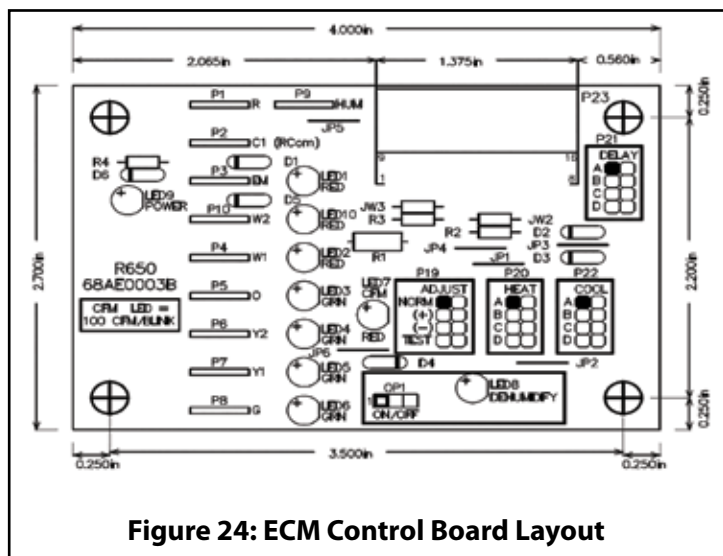

Figure 24: ECM Control Board Layout
5. Motor speed can be changed for both heating and cooling modes by moving the jumper on the “COOL” and “HEAT” jumper pins (See Figure 24) on the ECM control board to a different setting. Pin setting is as follows:
6. The ADJUST pin (See Figure 24) is used to increase or decrease the cooling and heating blower motor CFM by 10-12% by moving the pin from the NORMAL position to either the + or – setting.
Dehumidify– The ECM control board has a jumper pin (OP1, See Figure 24) that can be selected to provide on demand dehumidification for the cooling system. If the jumper pin is moved the ON position, a 24 VAC signal must be present from a dehumidifying thermostat or humidistat when the humidity is below the set point. The humidistat contacts must open when humidity is above the set point.